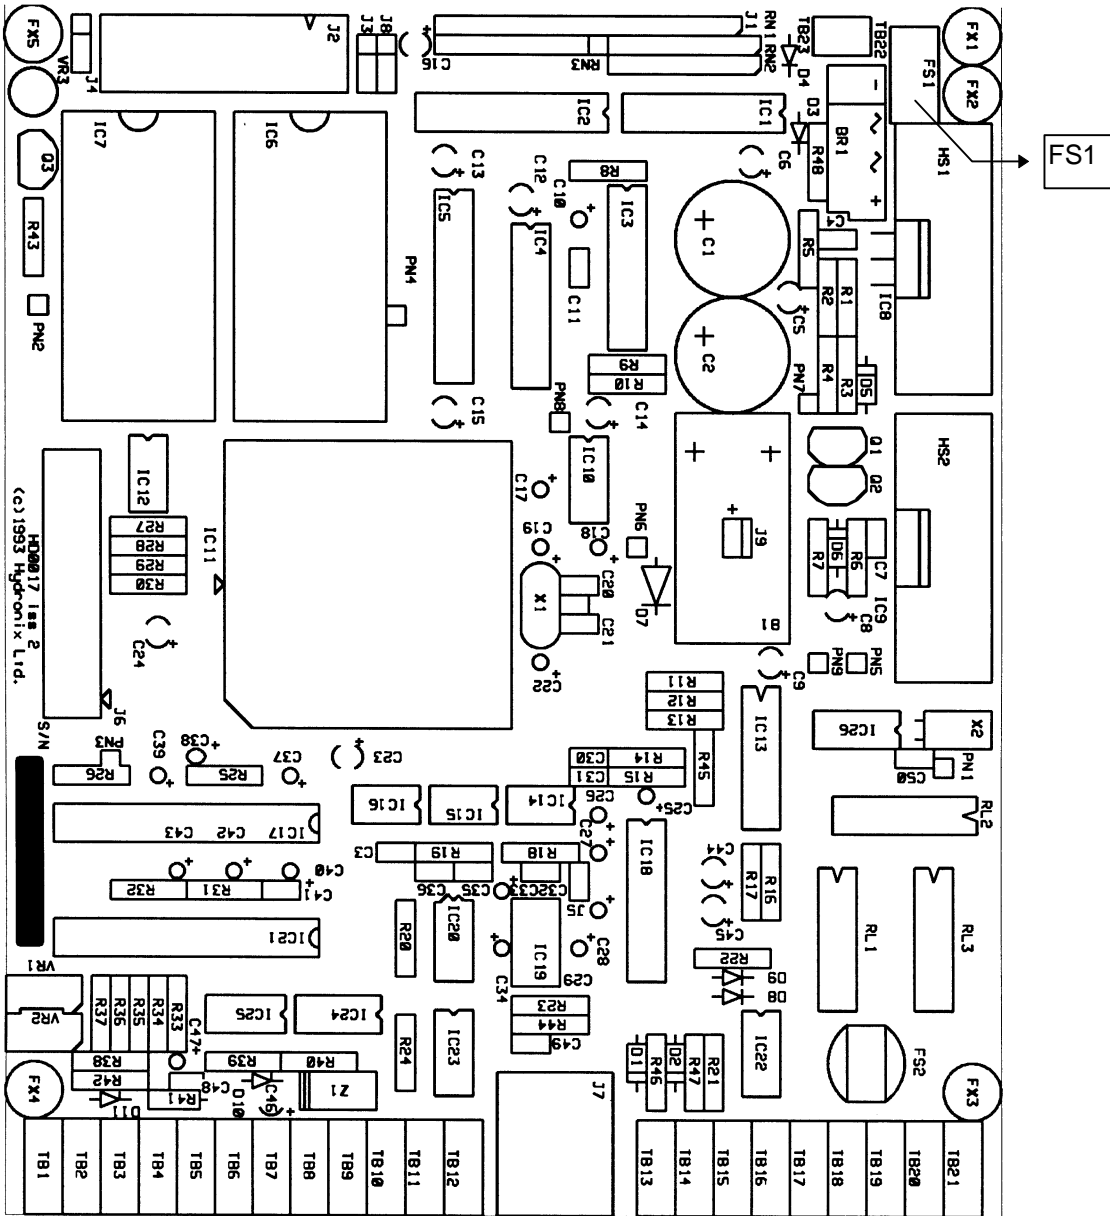

Figure 1 - HD0017 Circuit board
been found to 'age' resulting in spurious tripping in the field. If fuse FS1 is the re-settable PTC type (MFR050, yellow coloured bead) then it is very likely that this is the problem. To confirm this, remove power from the unit for a few minutes and then reapply power. If the unit re-starts then you should exchange FS1 for a 1A Anti-Surge (T) TR5 fuse and a two-pin mounting socket. FS1 is indicated in Figure 1.